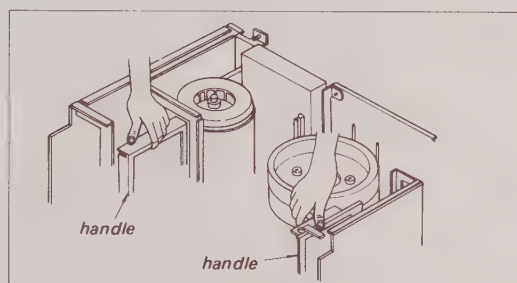

Fig. 4-3. Chassis removal
4. Grasp the chassis as shown in Fig. 4-3, and lift the chassis out of the cabinet.